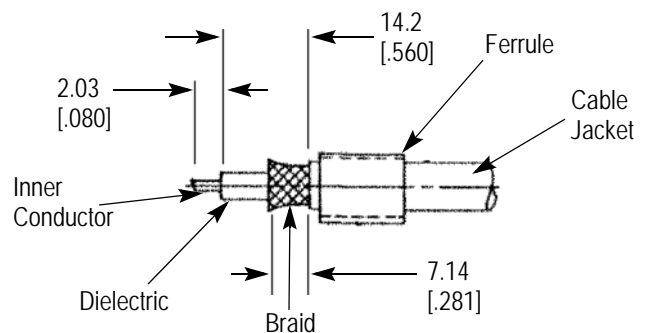

Figure 3
### 2.1. Preparing the Coaxial Cable End (Figure 3)
- Trim the outer conductor to length, as shown in Figure 3.
- Trim the inner conductor to length, as shown in Figure 3.